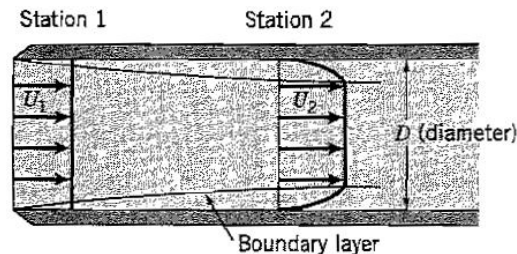

Figure P9.22
9.22 Consider the entrance section to a circular pipe of diameter D . The incoming velocity is constant over the area and equal to U_1 , as shown in Figure P9.22. Downstream, however, a boundary layer grows and this causes the flow in the central region to accelerate. The flow has a constant density ρ . Find U_2/U_1 given that $\delta^* = D/16$ at station 2. (Note that $\delta \ll D$)